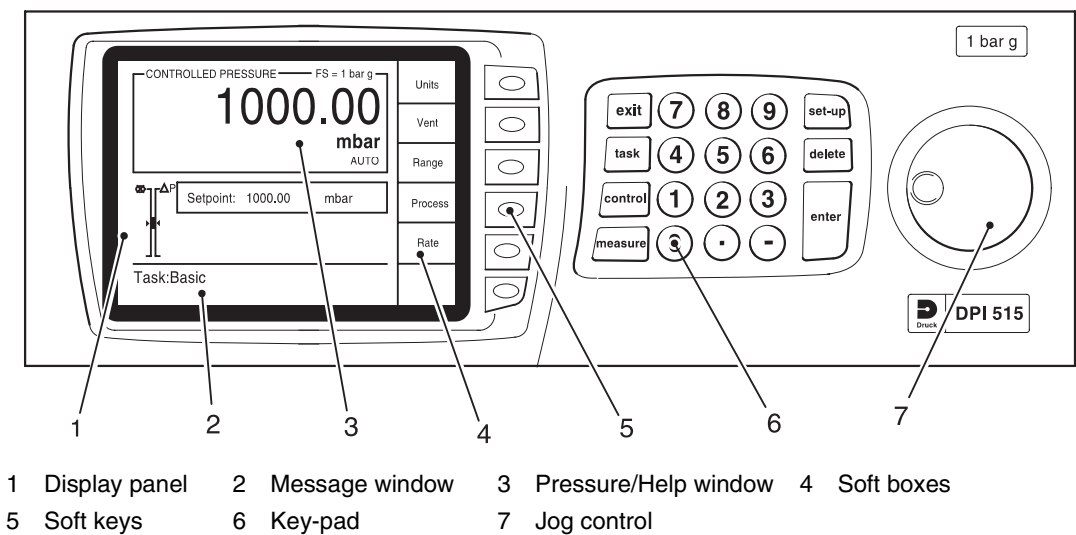

Figure 3-1, Instrument Controls and Indications
3.2 Quick Reference (Figure 3-1)